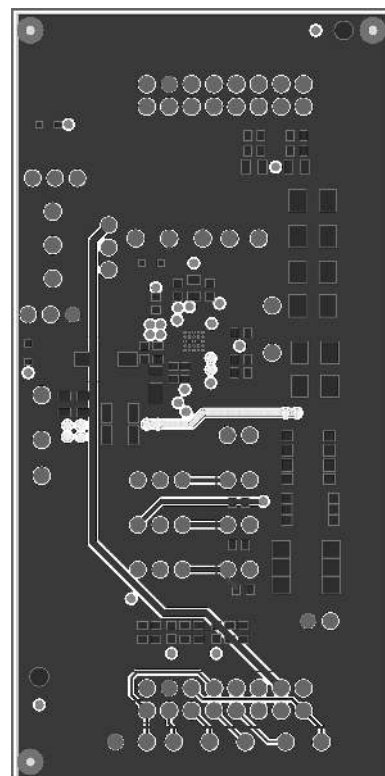

Figure 14. LP5526 Evaluation Board Layer 4 (Bottom, V_{DD_USB})
4. Bottom, solder side, V_{DD_USB} (Figure 14)